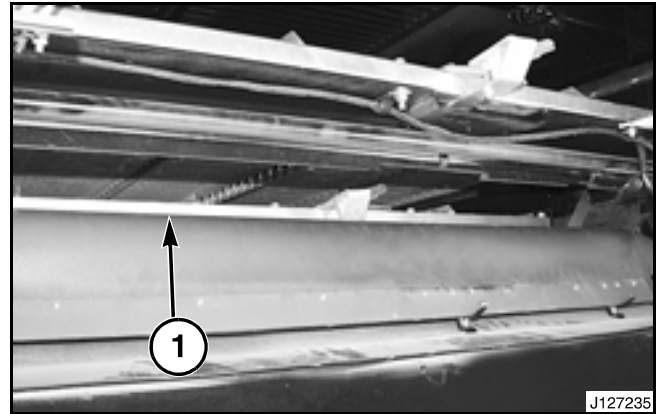

FIG. 429
FIG. 429: Remove the hardware fastening the sieve (1) to the cleaning shoe frame. Shake the sieve to loosen any chaff and dust accumulation. Slide the sieve out of the rear of the combine.